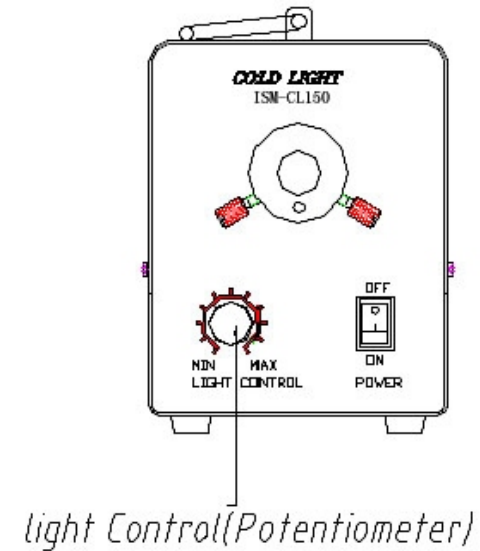

Fig.2.5
2. Make sure that the main switch (power) is turned off (in "o" state). (Fig.2.5);
3. Before using, rotate the light control to "MIN".(Fig.2.5);
5. Turn on the main switch and rotate the light control to adjust illumination intensity to a proper extent.(Fig.2.5);